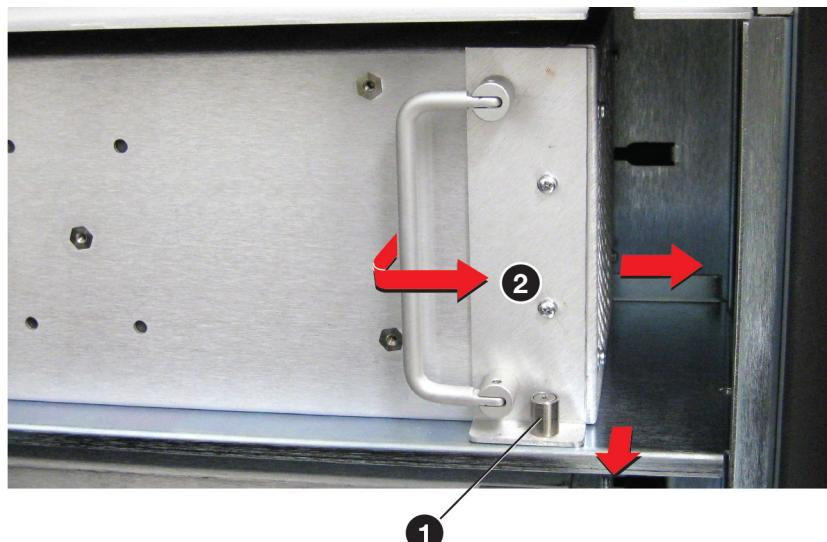

Figure 41. Removing a Power Supply Assembly
- a. Turn the door fastener clockwise from ① to ②.
2. Use an Extron Tweeker or small screwdriver to remove the locking screw (see figure 41, ①).